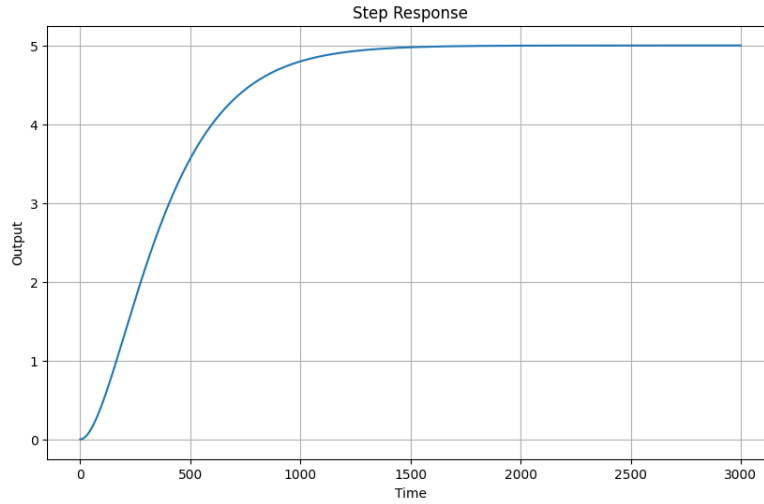

Figure 6: System response for amplitude $A = 1$
Figure 6 describes the step response with amplitude $A = 1$ of the system considering the transfer function that describes the input-output system defined based on our system:
With the plot in figure 6 and the transfer function in (12), we can determine that the system represents a second order critically damped system.
Analyzing the pole-zero map, we observe both the poles are located in the left half-plane of the $j\omega$ -axis, indicating a stable, second order critically damped system with a slow response. In fact, we can assure that since the response it's reaching the steady-state over time, as illustrated in figure 6. The absence of zeros and the presence of only two pole on the real axis simplify the analysis and control of this system.